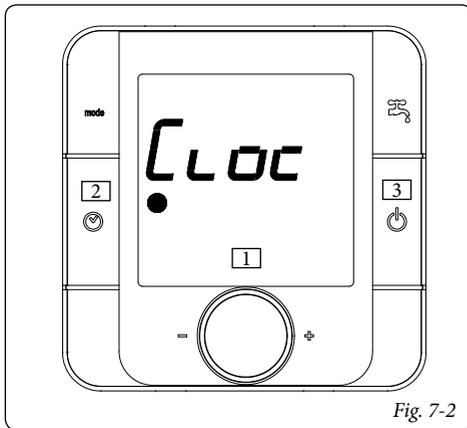

Fig. 7-2
- Buttons to the side of the display (Ref. 2 - 3 Fig. 7-2) allow to select the available functions.
- main switch (Ref. 1 Fig. 7-2) by turning it one can select the values of the parameters. The parameter being edited flashes, to store the selected value press the main selector.